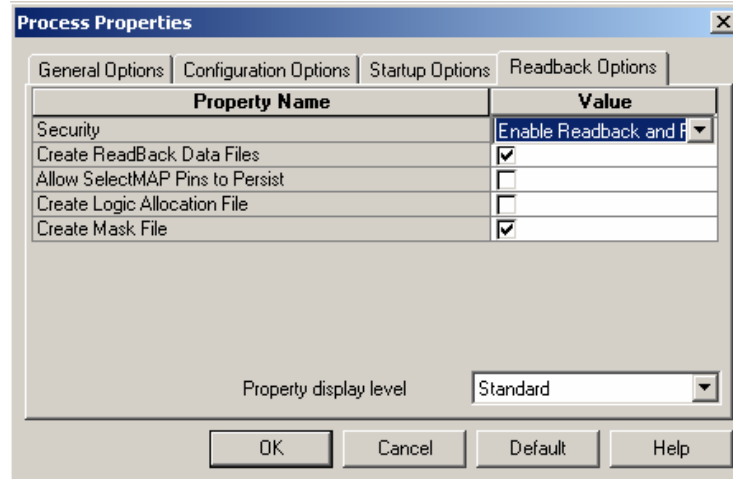

Figure 19. Readback options
9. Configuring generation of programming file process; Highlight top_accumulator.vhd, right click on **Generate Programming File** in the **Processes for Source** window. Select the **Readback Options** tab. Click the check box to the right of **Create ReadBack Data Files** (see figure 19). Then click the check box to the right of **Create Mask File**. Click Ok.